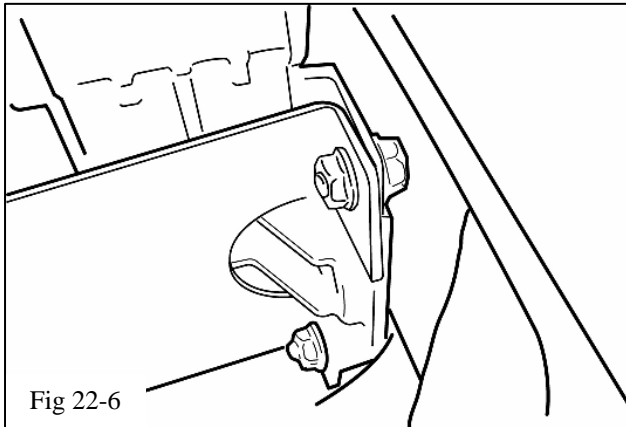

Fig 22-6
- (g) Unbolt the upper RH corner of the radiator so that corner can be pulled back slightly to make it easier to mount the intercooler reservoir mounting bracket (A1) with 2 M6 X 12 mm bolts (A13) and nuts (A12). (Fig 22-6) **Torque: 8 Nm (71 in lbf)**